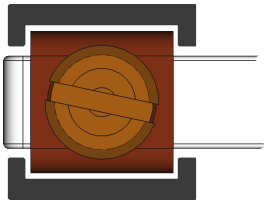

Fig. 1 Plastic
2. Close fitting walls (plastic) [Fig. 1]